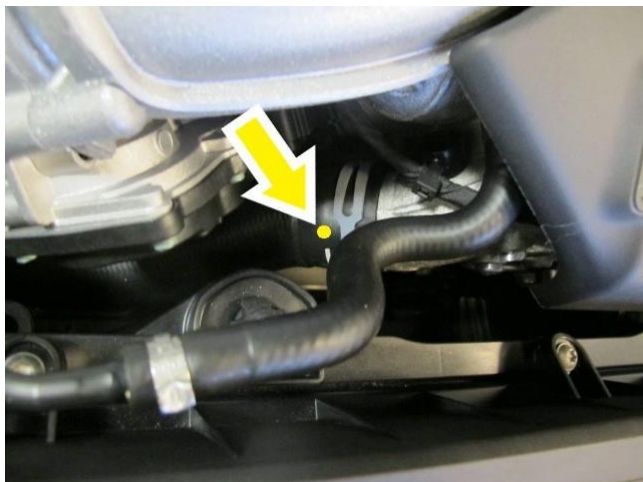

Figure 4
**Yes the fan is spinning / operating whilst the engine is running** - Apply a yellow paint completion mark on the radiator top hose (Figure 4) no further action is required
Yellow paint completion mark on the radiator top hose confirms the fan is spinning / operating (Figure 4)